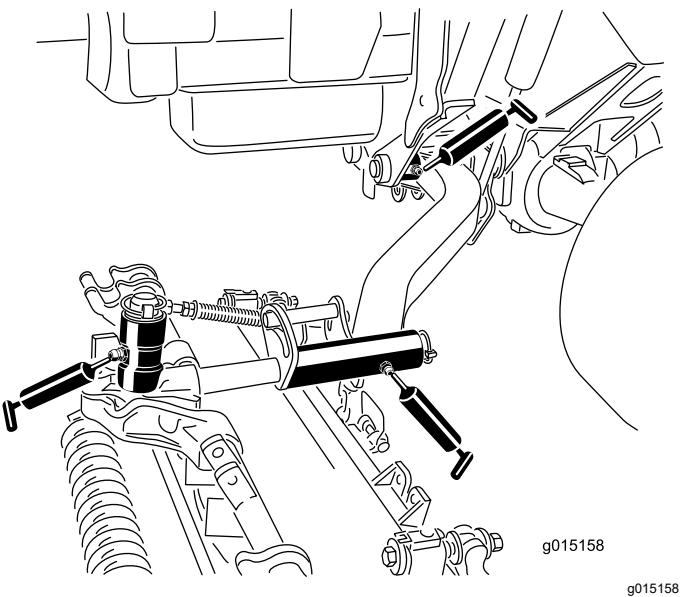

Figure 105
- Lift arm pivot bushings (1 per cutting unit), refer to Figure 105
- Cutting unit carrier frame (2 per cutting unit), refer to Figure 105
- Cutting unit lift arm pivot (1 per cutting unit), refer to Figure 105